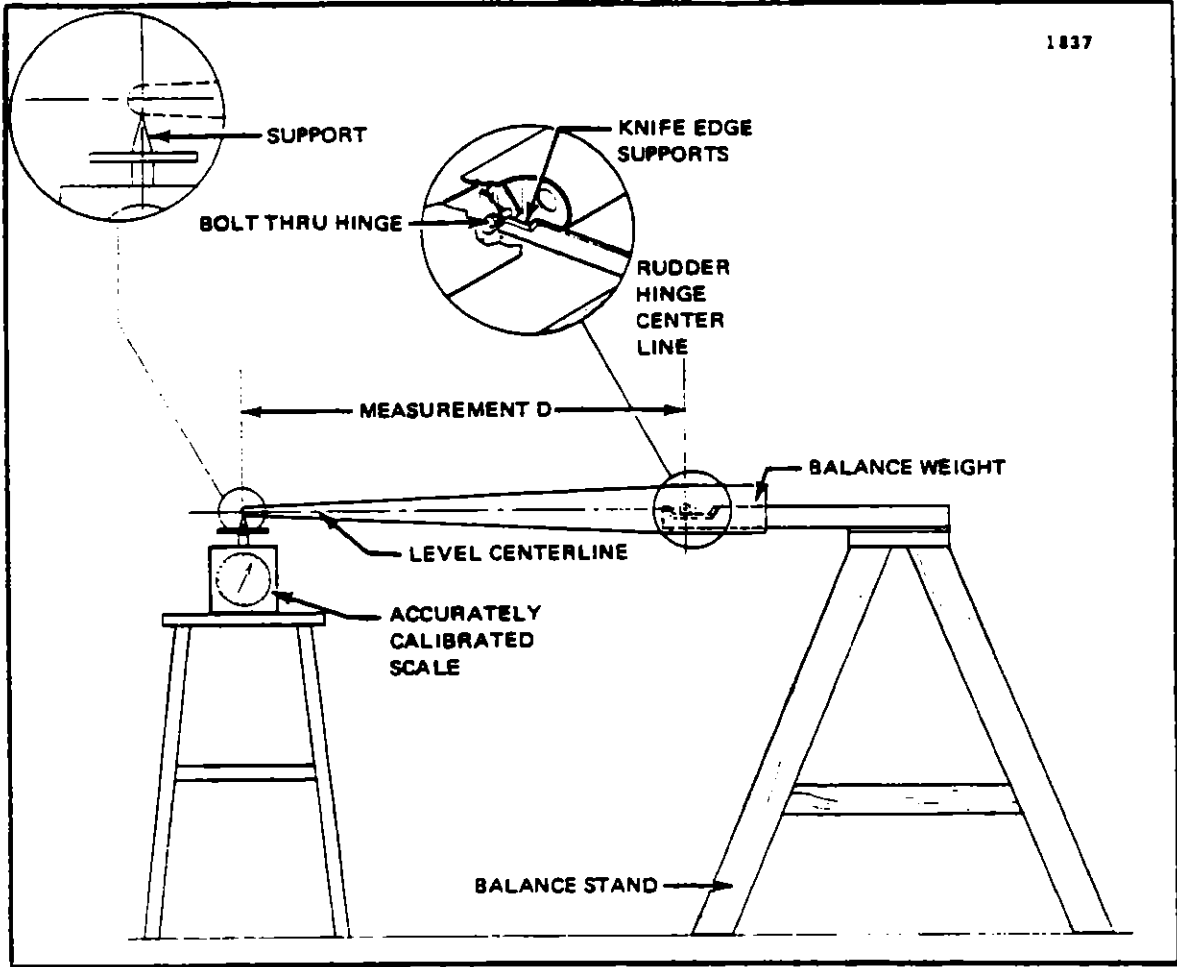

Figure 4-13. Checking and Balancing Rudder
4-51. CHECKING AND BALANCING RUDDER. (Refer to Figure 4-13.) The rudder must be checked to assure it is properly balanced whenever it has been repaired, repainted, or altered in any manner. The balancing requirement of the rudder must be checked with the complete assembly removed from the airplane.
b. Insert bolts in the two end hinges and place the complete rudder assembly on a suitable balance stand, as shown in Figure 4-13.
c. Position an accurately calibrated scale below the trailing edge of the rudder, as shown in Figure 4-13.
e. Measure the distance (in inches) between the point at which the support on the scale contacts the rudder surface and the centerline of the rudder hinge. This is Measurement D on Figure 4-13.